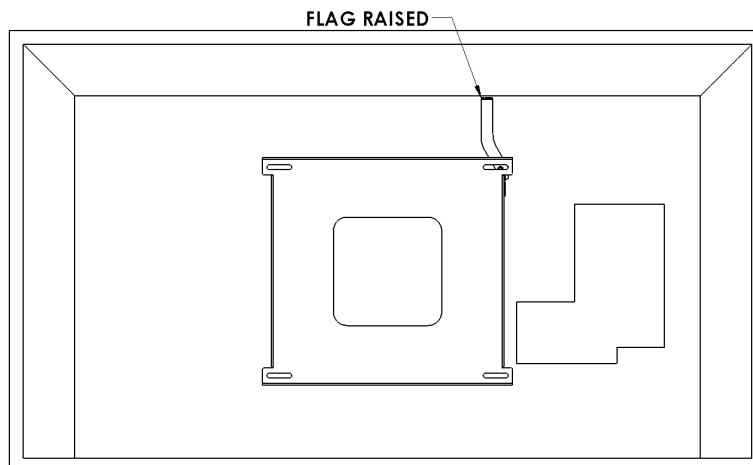

Figure 5
5. With the aid of another person, lift the display up to the mount, align the mounting buttons on the screen with the teardrop slots in the mount, and set the screen into place (see Figure 5).